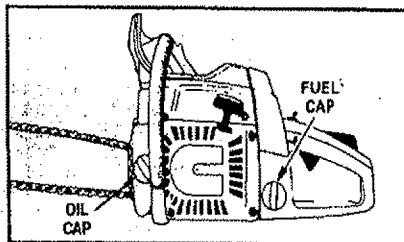

Figure 12
- Remove fuel cap. See Figure 12 for location.
- c. Loosen cap slowly and wait for pressure in the tank to be released before removing the cap. Figure 12, page 11.